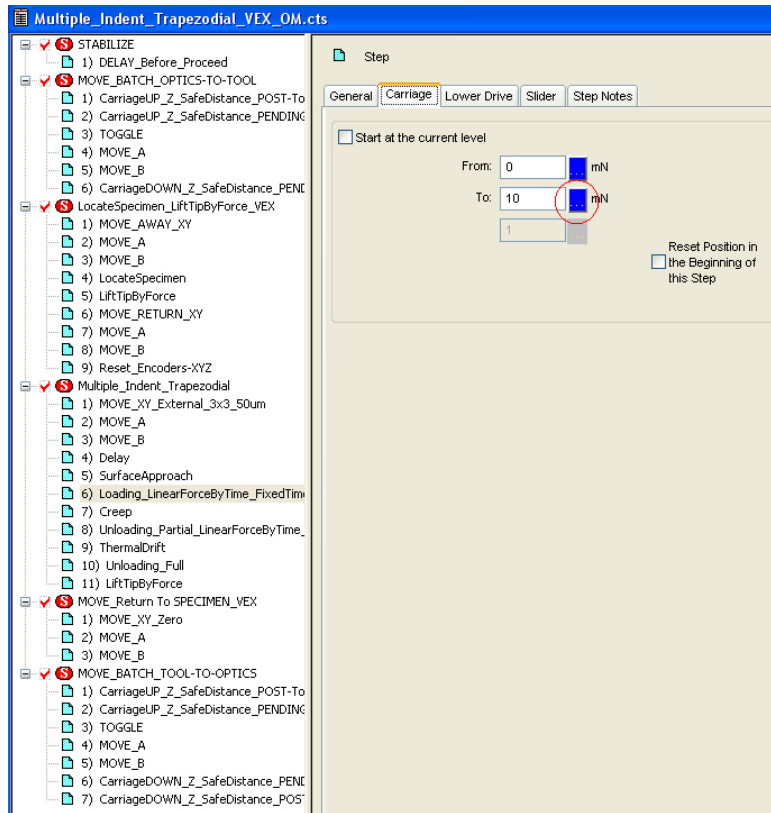

Figure 10: Button to select External Force Control.
- i. Click the blue box next to the load as shown in Figure 10.